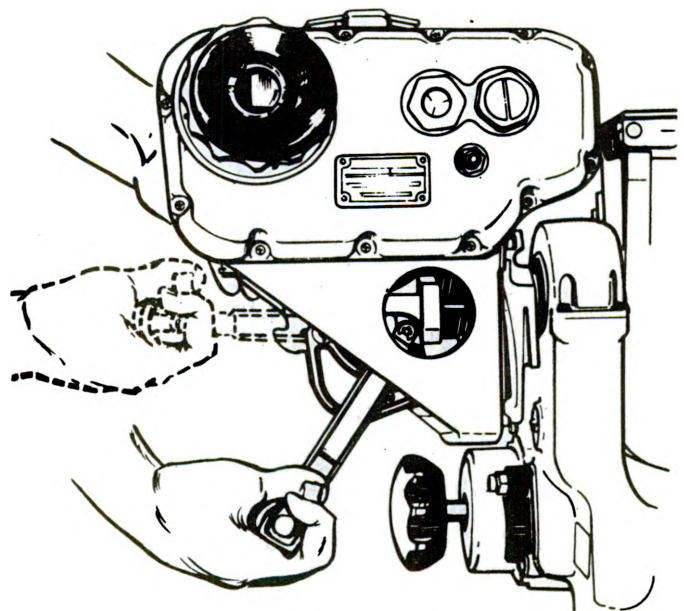

Figure 7. Securing the daysight tracker onto the boresight plate.
c. Lift up on the locking latch assembly to secure the tracker (fig. 7). (Do not let go until you are sure it is secure.)